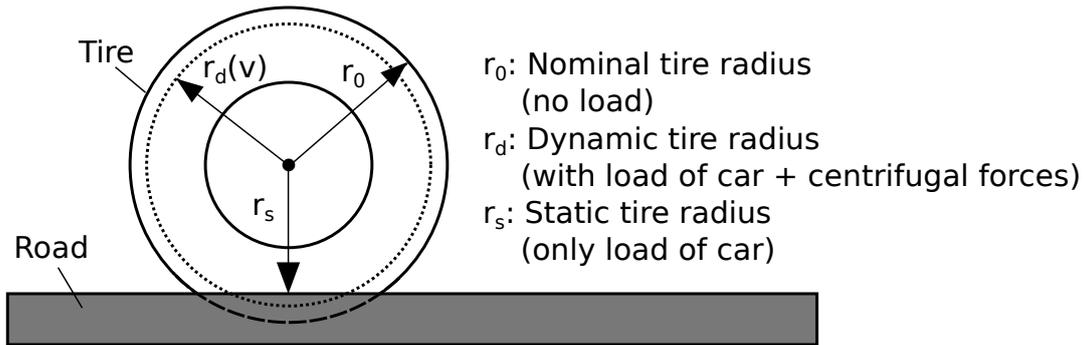

Fig. 1: Illustration of several tire radii
For the translational speed measurement of a car, angular position sensors are used at each of the four wheels. In order to get the speed value, the angular position measurement should be done every  $\delta t$  seconds. For the speed calculation the radius of the tire has to be known. Figure 1 illustrates several tire radii for one tire. Note that the dynamic tire radius depends on the translational speed of the car due to an increasing centrifugal force acting on the tire.
- Write down the equation to calculate a car's translational speed  $v$  depending on the change of the tire angle  $\delta\varphi$ , the time period between two angle measurements  $\delta t$  and one of the tire radii shown in Fig. 1. Choose which tire radius should be used in order get the most accurate translational speed value.